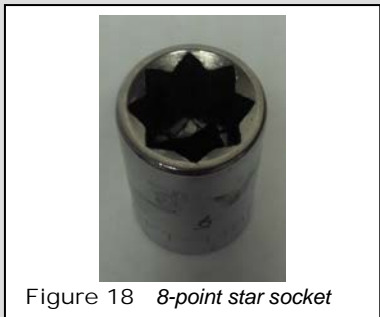

Figure 18 8-point star socket
2. Using a 1/2" 8-point star socket (**FIGURE 18**) and alternating from one side to the other, turn the 1/2" square drive tube to bring the room in. A 15 mm 12-point socket is an option if the 1/2" 8-point star socket is not available. Use caution, as the 15 mm 12-point socket does not fit as snug as the 1/2" 8-point socket.